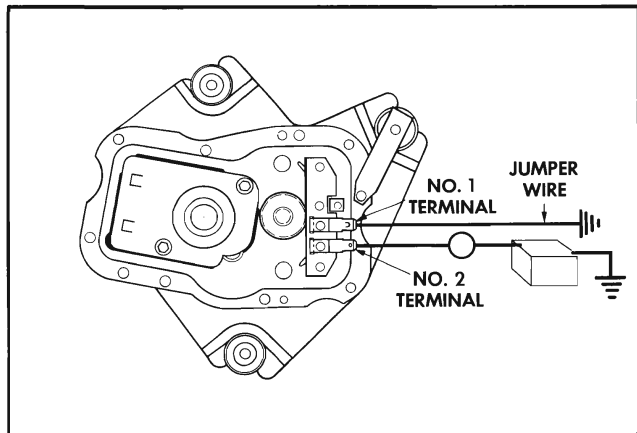

Fig. 11-80 Connections for Test Purposes
Fig. 11-80 shows the proper method of connecting jumper leads to the wiper so that it can be operated independently of the dash switch or car wiring for test purposes. NOTE: Specification table at end of this section lists current draw data.
2. If everything checks out in Step 1 and wiper fails to operate, disconnect wiring harness from wiper and check for 12 volts at harness terminal that connects to wiper terminal No. 2, Fig. 11-80.
3. Connect 12 volt supply to No. 2 wiper terminal and connect a jumper wire from terminal No. 1 to ground (Fig. 11-80). If wiper operates, the dash switch or wiring between dash switch and wiper is defective.
2. If wiper still operates in Step 1, disconnect wiring from wiper and connect 12 volt supply direct to wiper terminal No. 2 (Fig. 11-80). Do Not connect any jumper wire to terminal No. 1.
Connect 12 VDC Power source and ammeter to wiper as shown in Fig. 11-80 and observe current draw and wiper operation. NOTE: Identify wiper part number from wiper motor end cap and select proper current draw from specification table.
Wiper crank arm stops rotating immediately when jumper wire is disconnected from wiper terminal No. 1 (Fig. 11-80). **NOTE:** When crank arm has reached park position the crank arm index grooves will line up approx. with the ridges on the gear box cover.
Wiper crank arm fails to stop in park position when jumper wire is removed from wiper Terminal No. 1, Fig. 11-80.
2. Check for grounded condition in the internal motor lead that connects to terminal No. 1, Fig. 11-80.